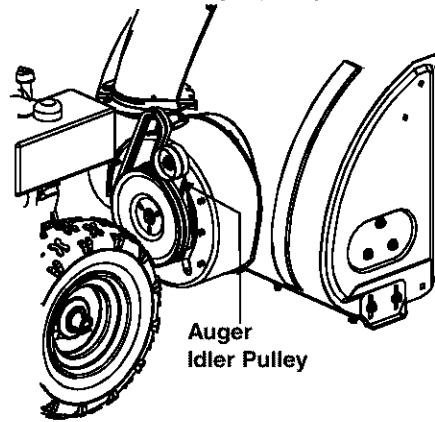

Figure 32
- To remove the front auger drive belt, push the idler pulley to the left. See Figure 32. The belt brake should move outward. Lift the front auger drive belt from the front auger pulley.